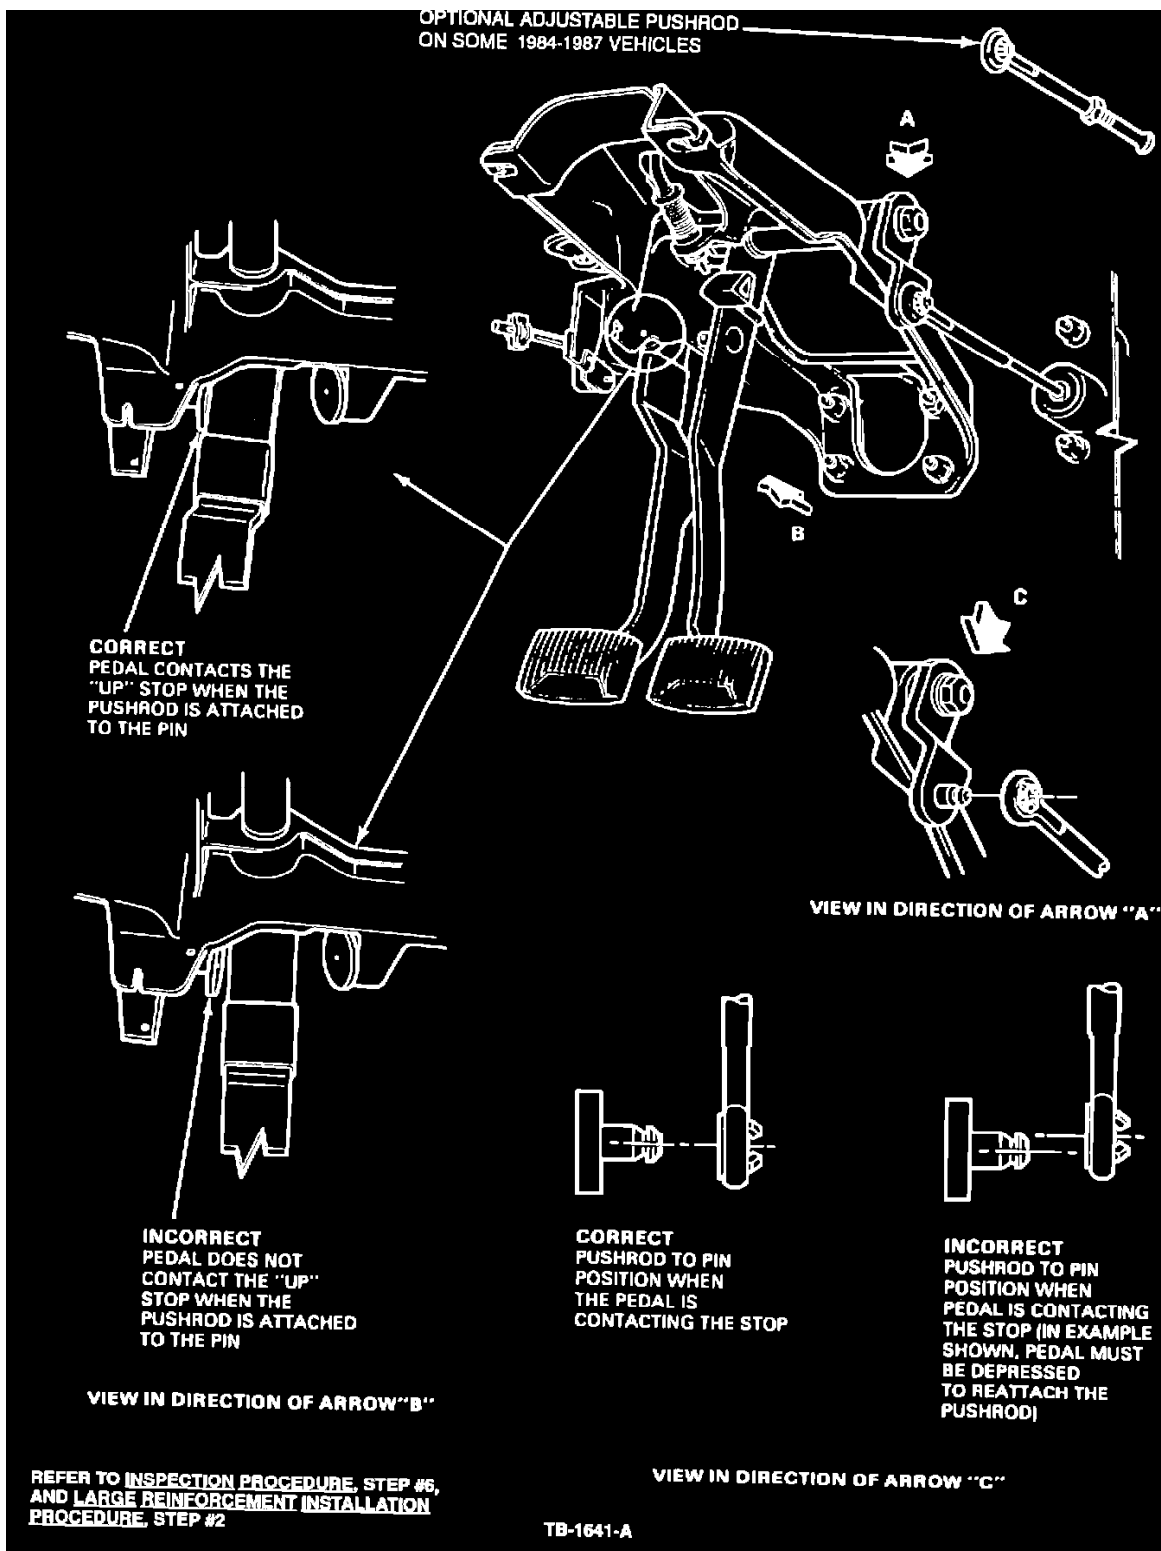

Figure 1
- b. Make sure the hole in the pushrod lines up with the pin, for those units requiring a minimal force for installation, Figure 1.